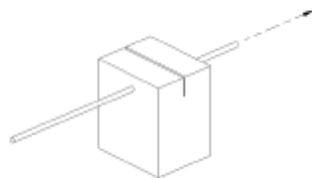

Figure 1.
1. Fiber optic cable end preparation cutting kit (SSD Drives part number LA385204) includes one (1) cutting fixture JA385201 and one (1) single edge cutting blade JA385205.
2. Insert fiber optic cable complete with sheath, into cutting fixture and cut off with blade as illustrated in figure 1 and 2. For Optimum results fiber optic cable should pass through both sides of cutting fixture.